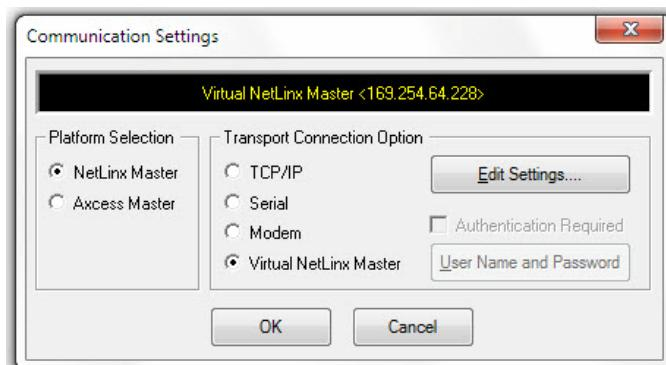

FIG. 33 Communications Settings dialog
3. Click the **Communications Settings** button to open the *Communications Settings* dialog (FIG. 33).